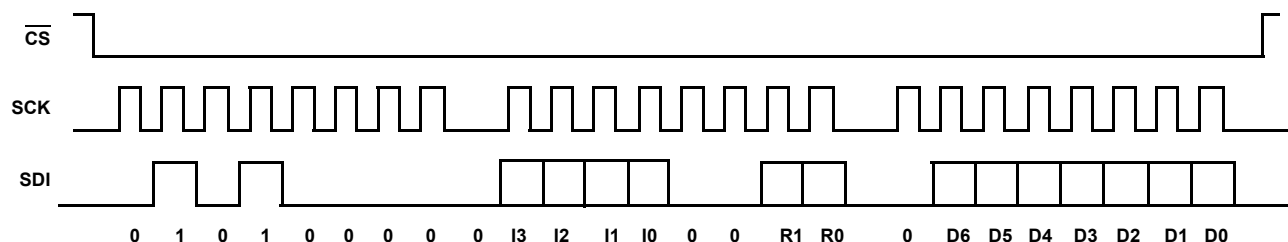

FIGURE 16. THREE BYTE WRITE SEQUENCE
operation by pulling the $\overline{\text{CS}}$ pin from LOW to HIGH. For a write to address 0 (WR), the byte at address 2 (ACR<7>) determines if the Data Byte is to be written to volatile or both volatile and non-volatile registers. Refer to "Memory Description" on page 10 and Figure 16.